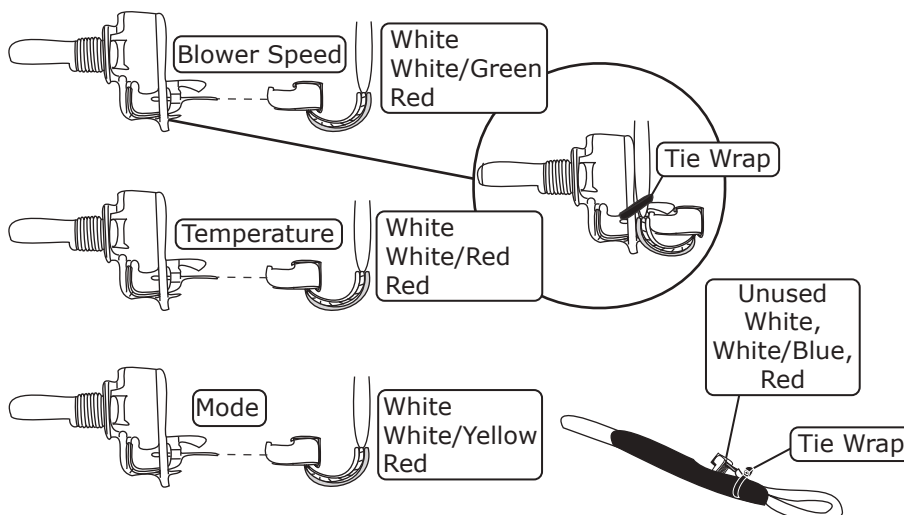

Figure 6
5. Connect the control harness to the rotary assemblies as shown in Figure 6, below.